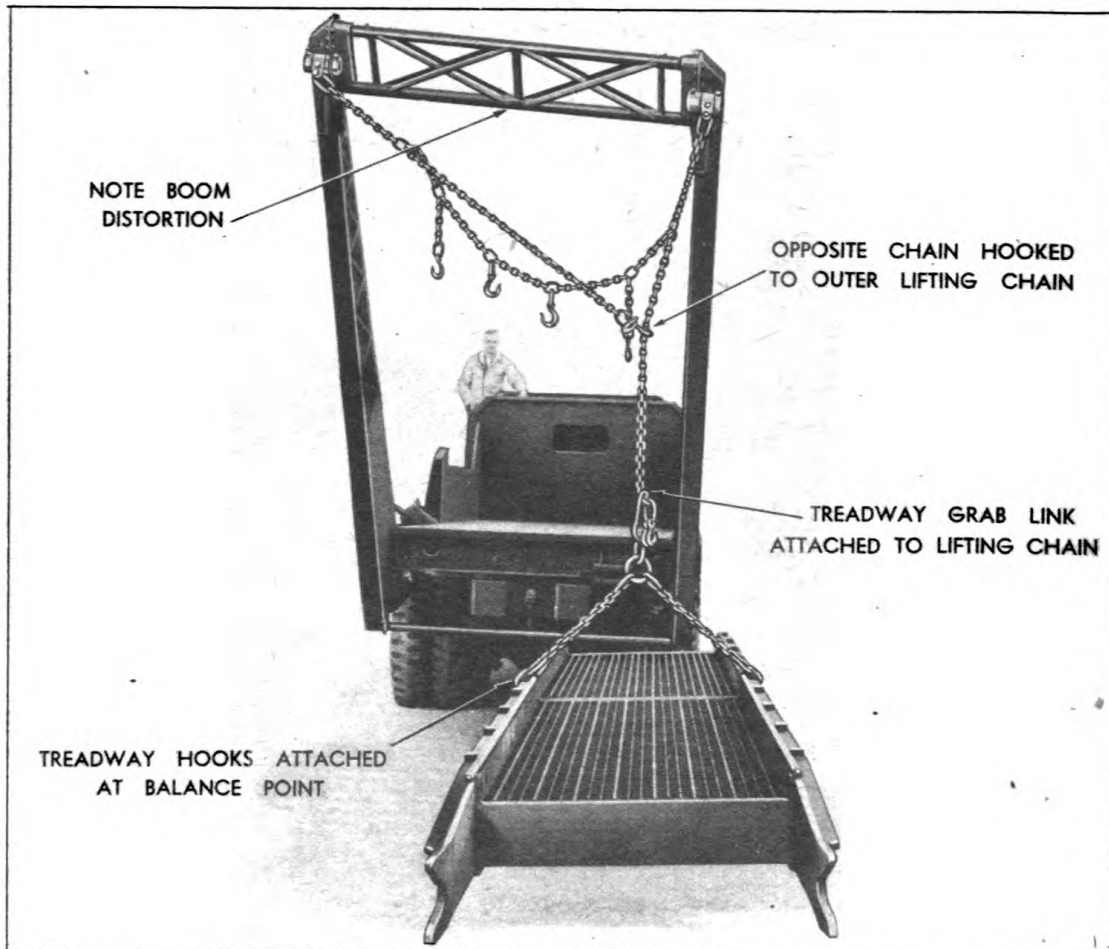

Figure 31. Handling Two Treadways on One Side. Note Boom Distortion
(1) An unbalanced load is detrimental to both the hydraulic mechanism and the truck chassis, and, it is therefore advisable, wherever practicable to balance the load, even if it is necessary to move the truck to one side or the other to eliminate any undue twisting of the chassis frame itself.
(2) There may be occasions where it will be necessary to handle only two treadways connected, end to end, on one side of the boom as shown in Figure 31. We call your attention to the distortion of the boom under this load when applied to one side of the boom assembly. **THIS ABSOLUTELY IS THE MAXIMUM LOAD THAT SHOULD EVER BE APPLIED TO ONE SIDE OF THE BOOM.** Any load greater than this may cause the upper boom support to bend or twist beyond its elastic limit and may damage the truck chassis.
(3) The correct chain hook-up for lifting two treadways on one side is shown in Figure 31. Attach a lower treadway hook assembly to the outer lifting chain, fastening it a link above the end connecting link. Attach the treadway hooks to the treadway flanges at the balance point as shown in the figure. Then bring the opposite outer lifting chain over and fasten it to the first lifting chain at the point shown, or about fifteen chain links below the large connecting link. **IMPORTANT: Use the GRAB LINK for fastening the opposite chain to the chain lifting the load.** The second lifting chain transmits part of the load to the opposite boom and prevents permanent boom distortion. **ALWAYS USE BOTH CHAINS.**